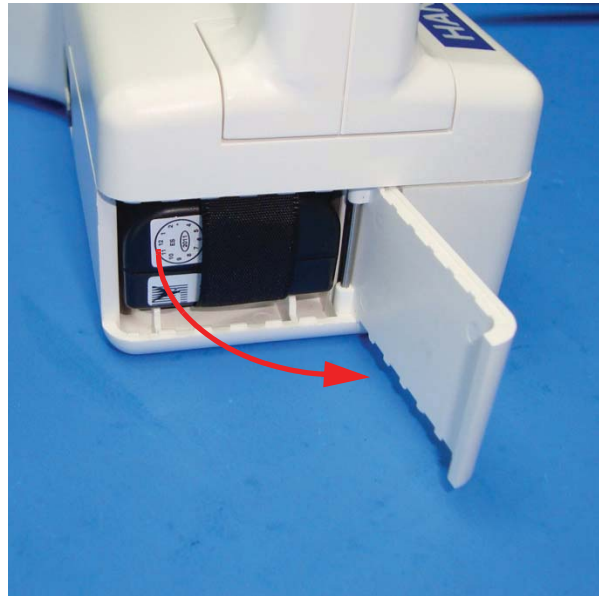

Figure 3-10 Open Battery Compartment door
2. Swing the battery compartment door open. See Figure 3-10.